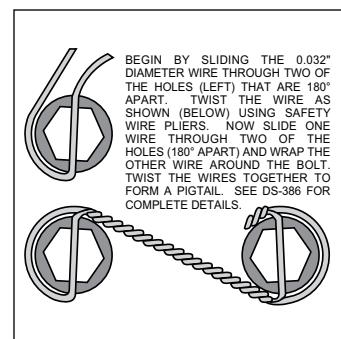

Figure 2. Safety Wire Diagram
STEP 2 Orient the rotor (5) and the hat (6) as shown in Figure 1 and Photo 3. Attach rotor to hat using bolts (7) and washers (8). Apply red *Loctite*® 271 to the bolt threads and torque to value shown in Figure 1 using a criss-cross pattern. For an added measure of security, the bolts may be safety wired using standard 0.032 inch diameter stainless steel safety wire as shown in Figure 2. Refer to Wilwood's data sheet DS-386 (available at www.wilwood.com/pdf/DataSheets/ds386.pdf) for complete safety wire installation instructions.